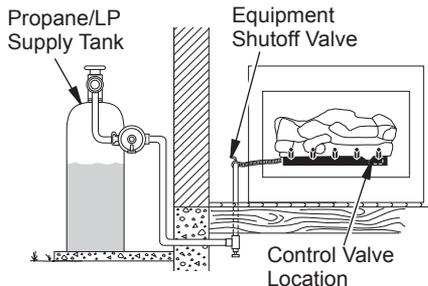
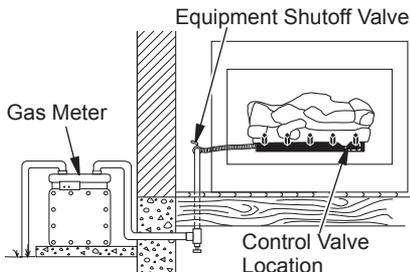

Figure 16 - Checking Gas Joints (Propane/LP Only)
Figure 17 - Checking Gas Joints (Natural Gas Only)
3. Check all joints from gas meter to equipment shutoff valve for natural gas or propane/LP supply to equipment shutoff valve for propane/LP (see **Figure 16 or Figure 17, Page 16**). Apply noncorrosive leak detection fluid to all joints. Bubbles forming show a leak.
4. Check all joints from gas meter to equipment shutoff valve for natural gas or propane/LP supply to equipment shutoff valve for propane/LP (see Figure 16, Page 15 or Figure 17, Page 16). Apply noncorrosive leak detection fluid to all joints. Bubbles forming show a leak.